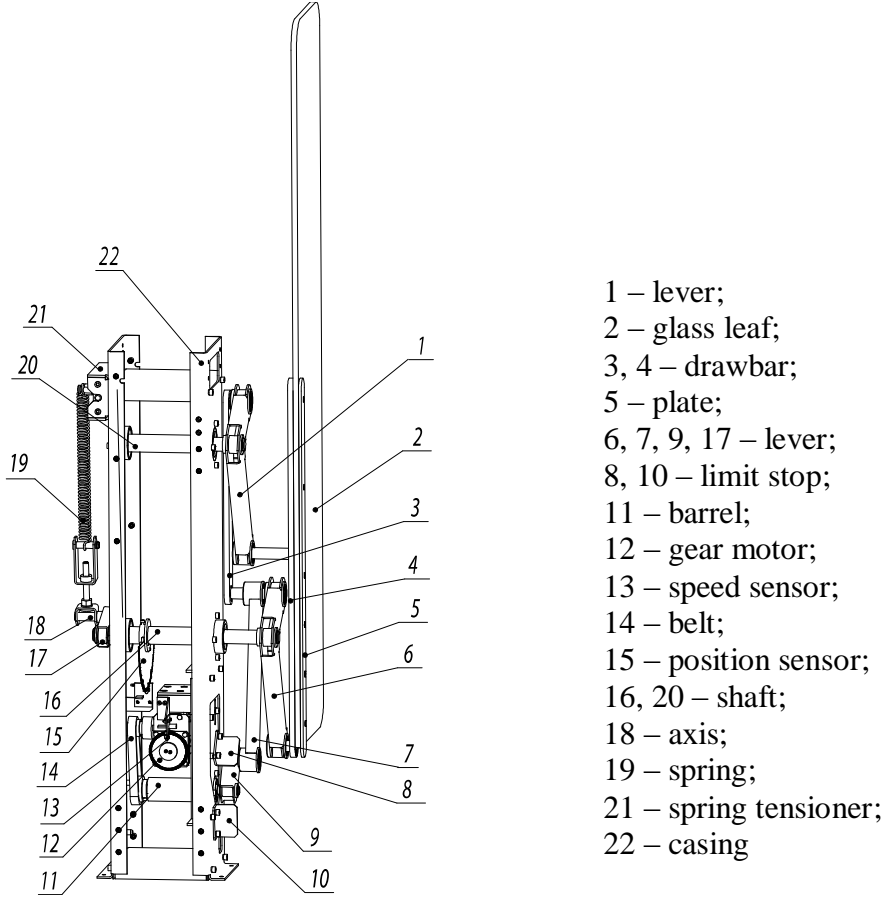

Figure 3 – Actuating mechanism of the «JETPAN» type turnstile
1.4.1.6 Actuating mechanism of pedestrian gate, shown in the Figure 3, provides reliable mechanical locking of leaf in travel end points due to toothed-belt drive.